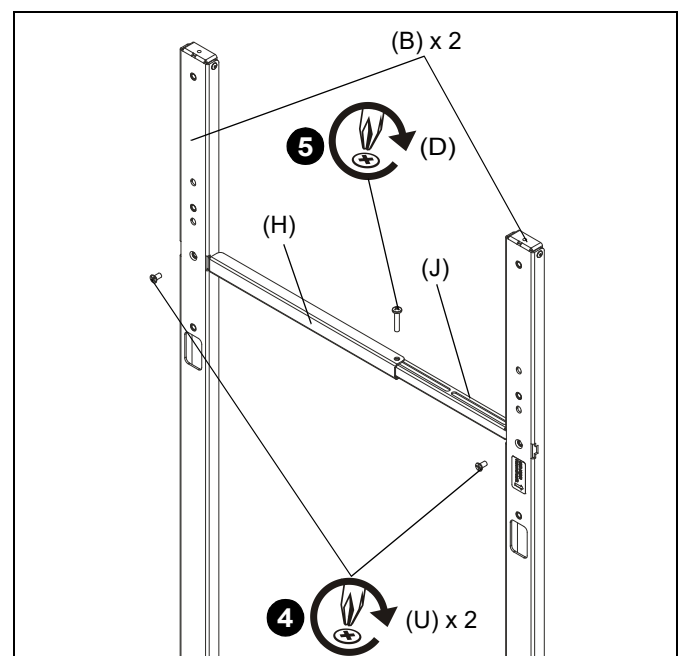

Figure 2
4. Use two 1/4-20 x 1/2" Phillips flathead screws (U) to secure long spacer bracket (H) and short spacer bracket (J) to top uprights (B). (See Figure 2)
5. Use 1/4-20 x 1" Phillips pan machine screw (D) to secure long spacer bracket (H) and short spacer bracket (J) together. (See Figure 2)